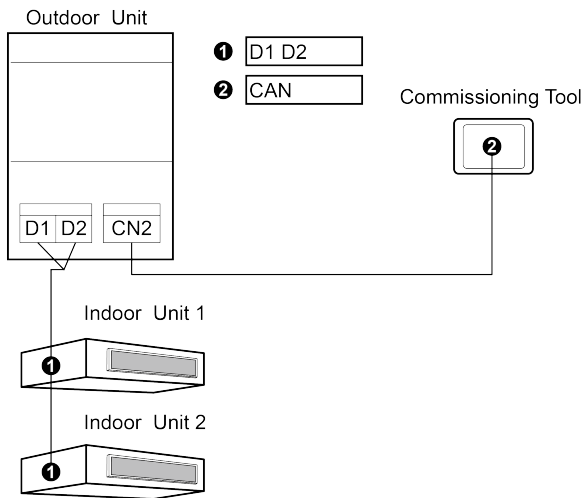

Fig.2.4 CAN Communication Connected with ODU Network
- (3) If this product is to be connected with ODU network, connect according to Fig.2.4. During connection, one end of the 4-core long connection wire is connected with COM interface of this product; the other end is connected with CN2 interface of the ODU main board.
- (4) DIP of ODU address shall be set. Please set this DIP in the master ODU. The setting code (SA8) of the master unit shall be set to "00". Otherwise, it is invalid.